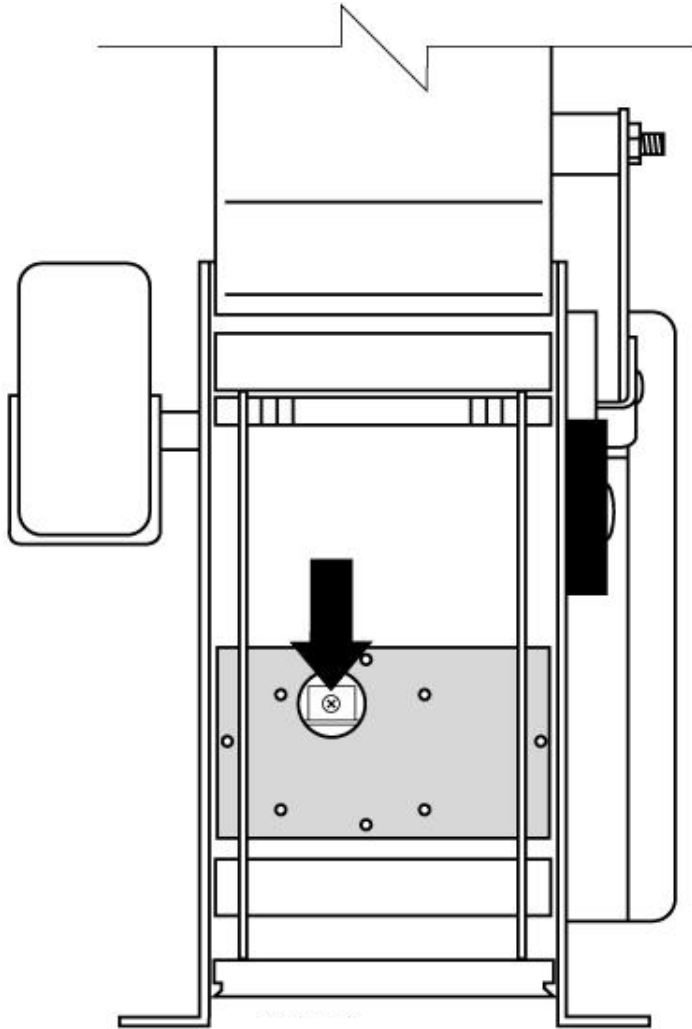

FIGURE 3
- The position of the lower feed wheel can be adjusted by using the set screw on the feed assembly. This can be accessed through the large hole in the support bracket. (Figure 3)